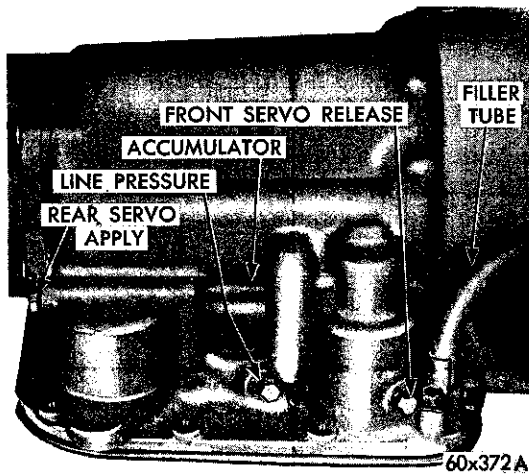

Fig. 26—Pressure Test Locations (Right Side of Case)
(2) Connect two 0-100 psi pressure gauges, Tool C-3292 to pressure take-off-points at the side of the accumulator and at the front servo release (Fig. 26).
(3) With the control in D (drive) position, speed up the engine slightly until the transmission shifts into direct. (Front servo release will be pressurized in direct). Reduce engine speed slowly to 1,000 rpm. Line pressure at this time (1,000 rpm) must be 54-60 psi, and the front servo release pressure must not be more than 3 psi below line pressure.
(4) Disconnect the throttle linkage from the transmission throttle lever and move the throttle lever gradually to full throttle position. Line pressure must rise to a maximum of 90-96 psi just before or at kickdown into low gear. Front servo release pressure must follow line pressure up to the kickdown point and should not be more than 3 psi below line pressure.